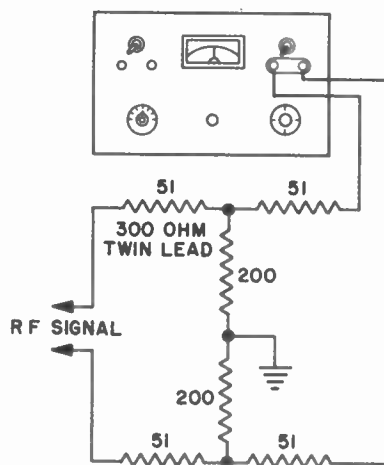

FIGURE 3
2. *R-F cables and lines should always be properly terminated in their characteristic impedance. Since in practice this is frequently not the case, it may be necessary to insert a resistance matching pad in the line. See figure 3. While this will "cool off" the line by reducing standing waves, it will also cause some loss in signal strength. In the case of a 6db pad it will cause the signal to drop two times down from the original level.*